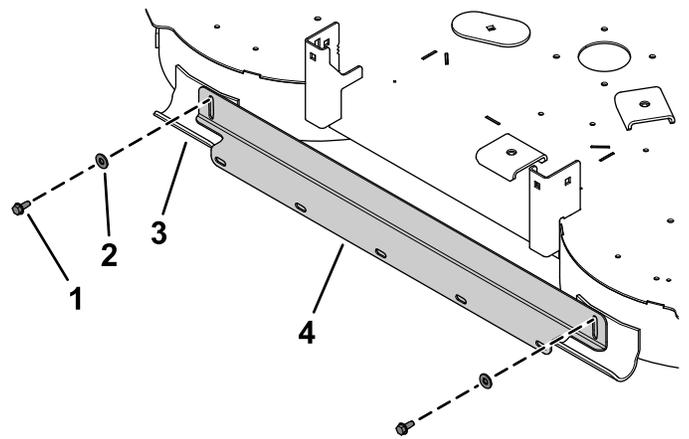

Figure 5
6. Secure the striping bracket to the skids using 2 washer-head screws (5/16 x 3/4 inch, self-threading) and 2 flat washers (5/16 inch) as shown in Figure 5.